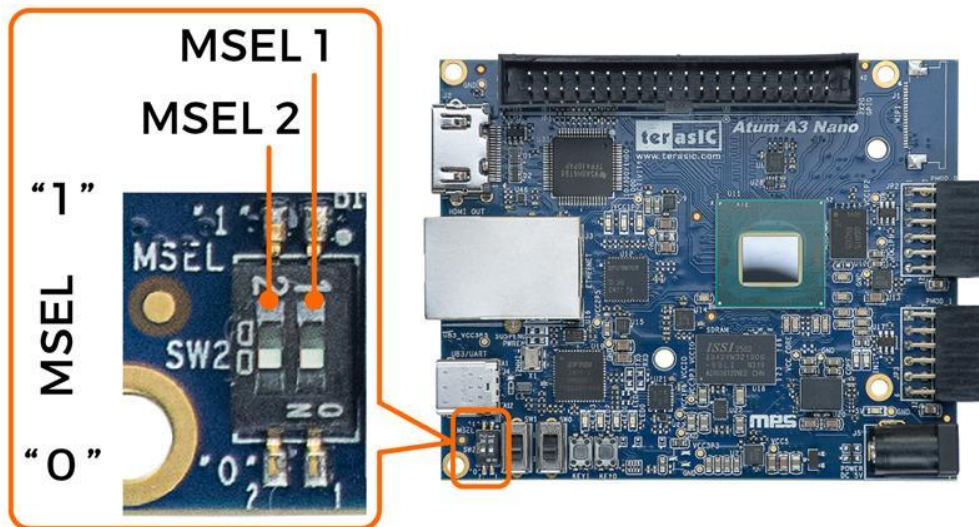

Figure 3-1 DIP switch (SW2) setting of Active Serial (AS) mode on Atum A3 Nano board
When the Atum A3 Nano board is powered on, the FPGA is configured from QSPI Flash. The MSEL[2:1] switches are used to select the configuration scheme, implemented as a 2-pin DIP switch **SW2** on the Atum A3 Nano board, as shown in **Figure 3-1**.
Figure 3-1 shows MSEL[2:1] setting of Active Serial (AS) Fast mode, which is the default setting on the Atum A3 Nano. When the board is powered on, the FPGA is configured from QSPI Flash, which is pre-programmed with a default configuration.